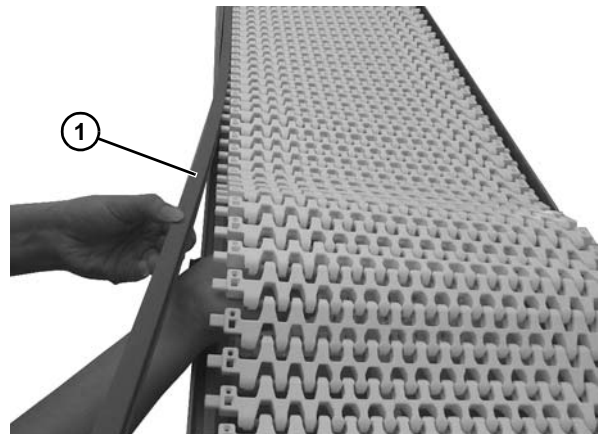

Figure 30
1. Lift belt off of frame and remove each edge strip (**Figure 30, item 1**) from side tabs of belt.